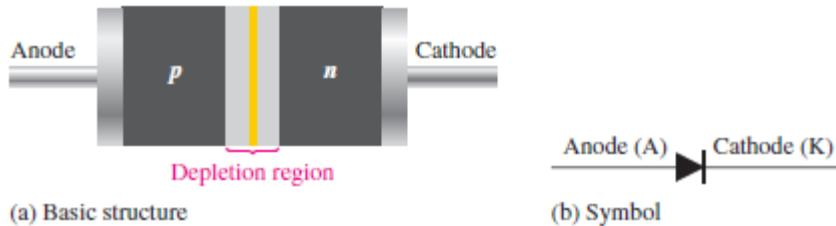

Figure 2–1: The diode.
As mentioned, a **diode** is made from a small piece of semiconductor material, usually silicon, in which half is doped as a *p* region and half is doped as an *n* region with a *pn* junction and depletion region in between. The *p* region is called the **anode** and is connected to a conductive terminal. The *n* region is called the **cathode** and is connected to a second conductive terminal. The basic diode structure and schematic symbol are shown in Figure 2–1.
Typical Diode Packages Several common physical configurations of through-hole mounted diodes are illustrated in Figure 2–2(a). The anode (A) and cathode (K) are indicated on a diode in several ways, depending on the type of package. The cathode is usually marked by a band, a tab, or some other feature. On those packages where one lead is connected to the case, the case is the cathode.
Surface-Mount Diode Packages Figure 2–2(b) shows typical diode packages for surface mounting on a printed circuit board. The SOD and SOT packages have gull-wing shaped leads. The SMA package has L-shaped leads that bend under the package. The SOD and SMA types have a band on one end to indicate the cathode. The SOT type is a three-terminal package in which there are either one or two diodes. In a single-diode SOT package, pin 1 is usually the anode and pin 3 is the cathode. In a dual-diode SOT package, pin 3 is the common terminal and can be either the anode or the cathode. Always check the datasheet for the particular diode to verify the pin configurations.